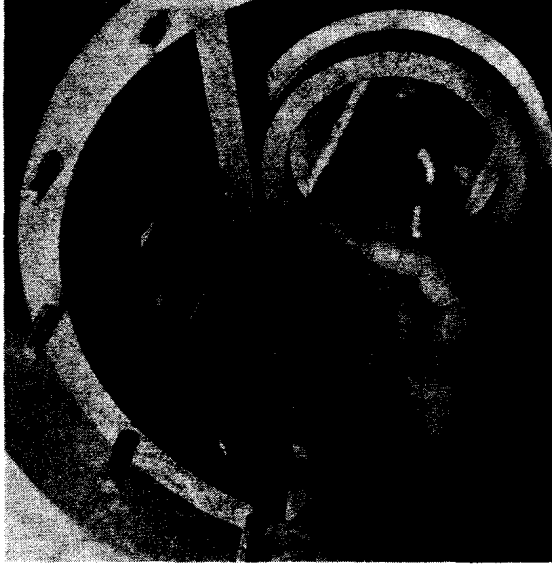

Fig. 5 With pinion in the setting gauge, a feeler gauge is used to measure clearance.
2. Place a $\frac{1}{2}$ " parallel bar across the pinion, as illustrated. Hold it flat and square with the pinion face. Measure the clearance between the bar and the setting gauge (Fig. 5). **Correct** clearance is etched on the pinion.